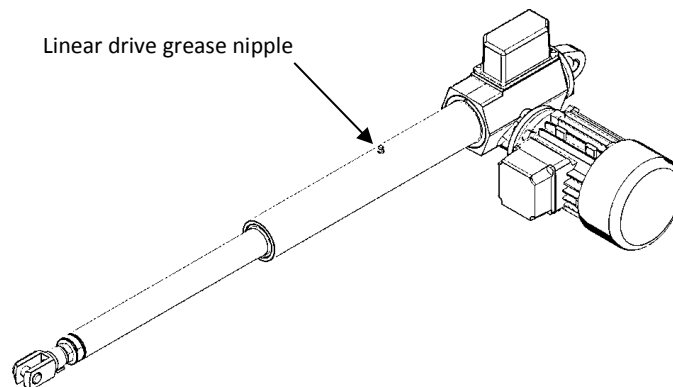

Figure 9.2 – Linear drive relubrication
- Relube the linear actuator using proper grease nipples, as shown on Fig. 9.2.